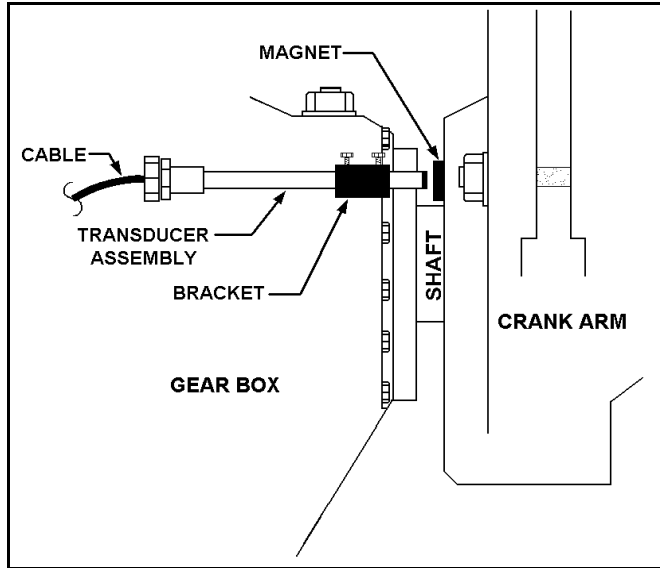

Figure 6-8. Bar Magnet Mounted on Back of Crank Arm
- **Bar magnet** (see Figure 6-8) — Mount a bar magnet on the crank, and carefully inspect the backside of the crank arm to ensure that the transducer will not be hit by a portion of the crank that extends out further than the surface of the magnet. After making sure that the magnet facing the transducer has the correct polarity, glue the magnet to the crank with silicone.